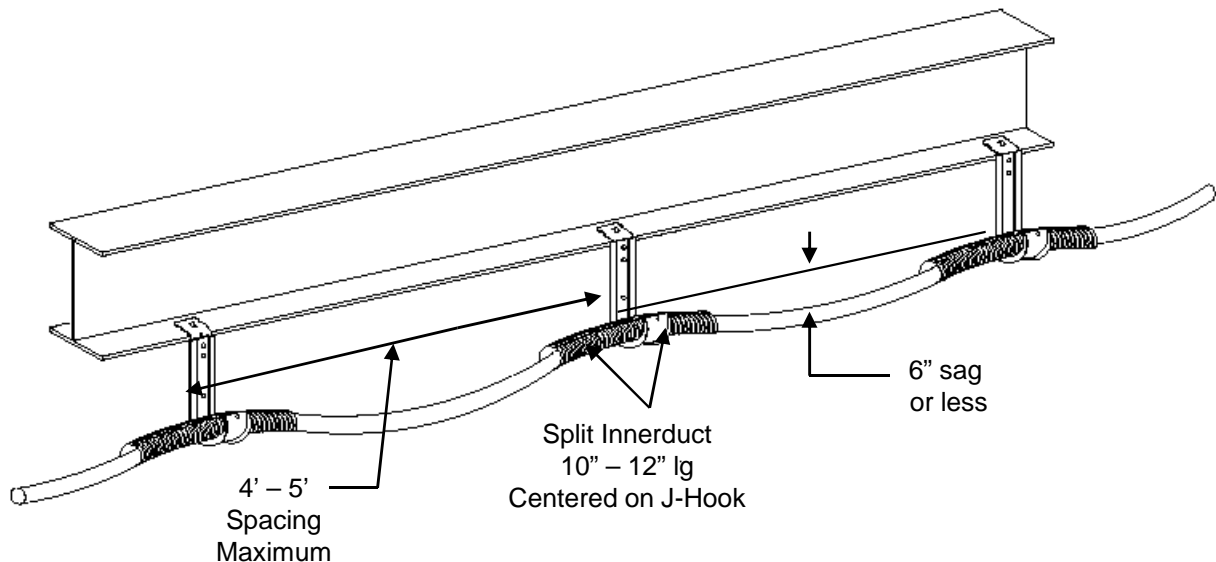

Figure 1
9.7 J-Hooks with Innerduct – J-Hooks can be used to support TP2 tube cables provided the J-Hooks are spaced no more than 4- to 5-feet apart and a minimum 10-to-12 inch long piece of Innerduct is placed around the tube cable as it lays in each J-Hook. The Innerduct piece must be centered in the hook to provide good support as the cable enters and exits the narrow J-Hook area thus spreading out the linear loading of the tube cable. Additionally, the tube cable shall be installed with no more than 6" sag between the J-Hooks. **See Fig. 1.**